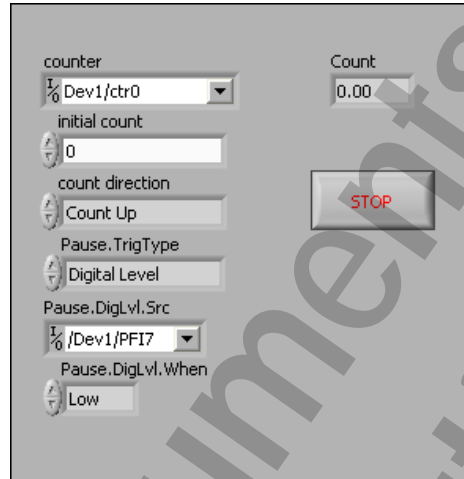

Figure 6-4. Simple Edge Counting - Gated VI Front Panel
4. Arrange the front panel controls as shown in Figure 6-4.